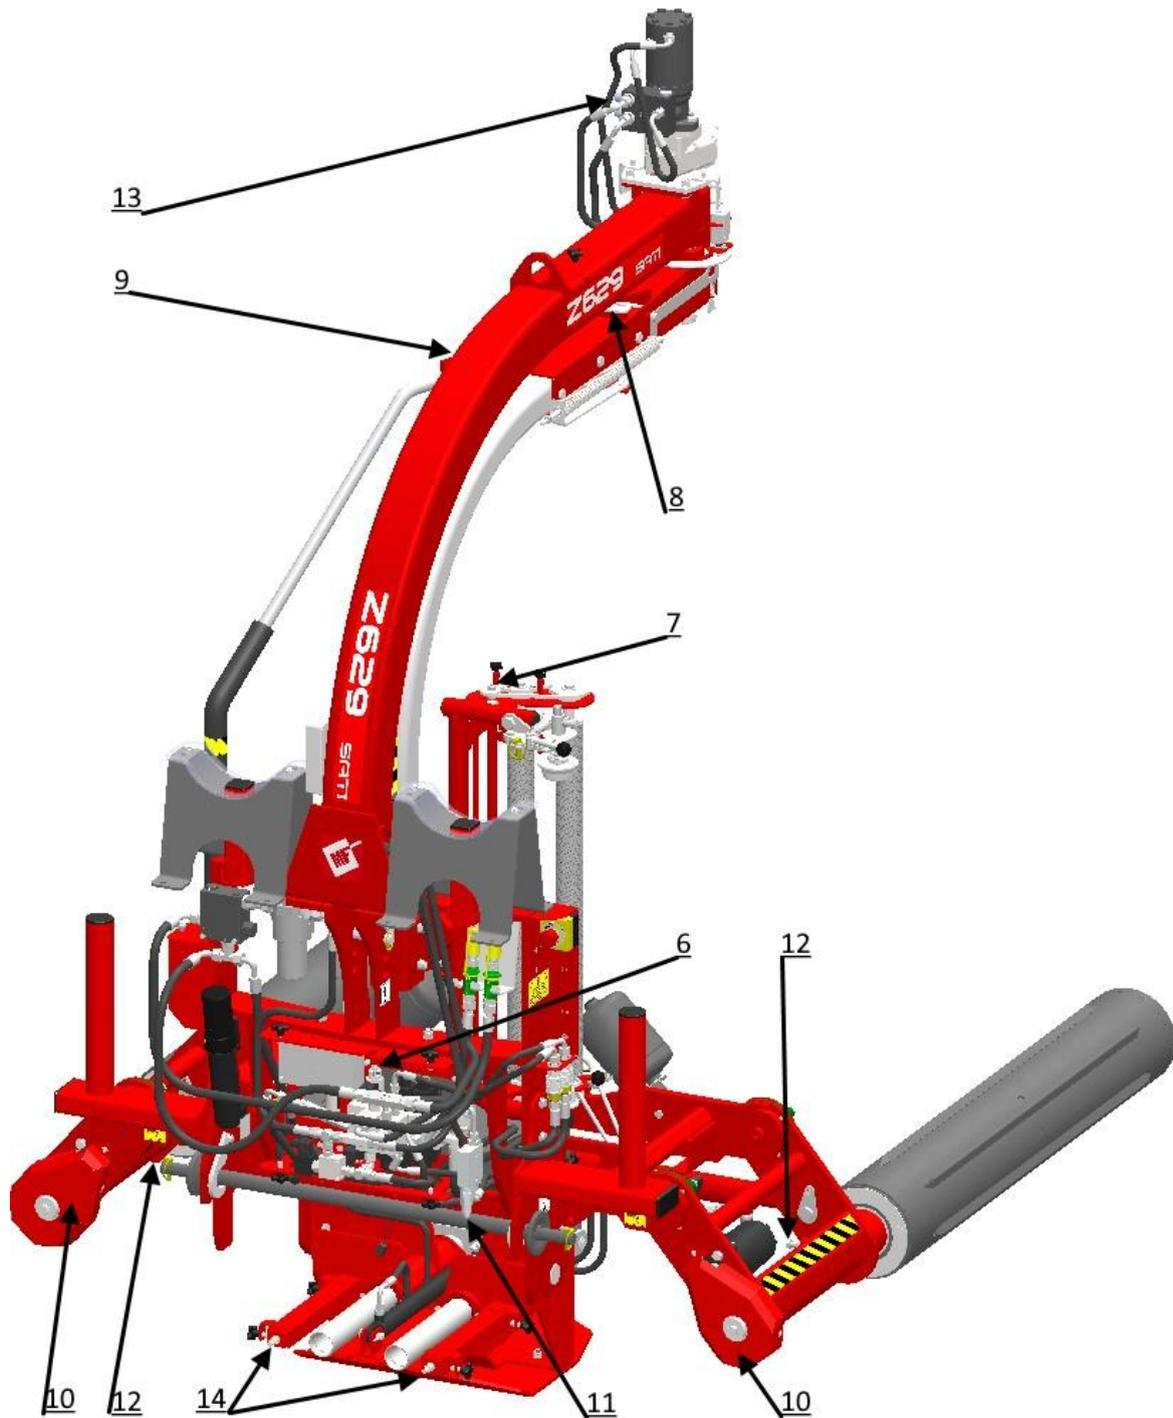
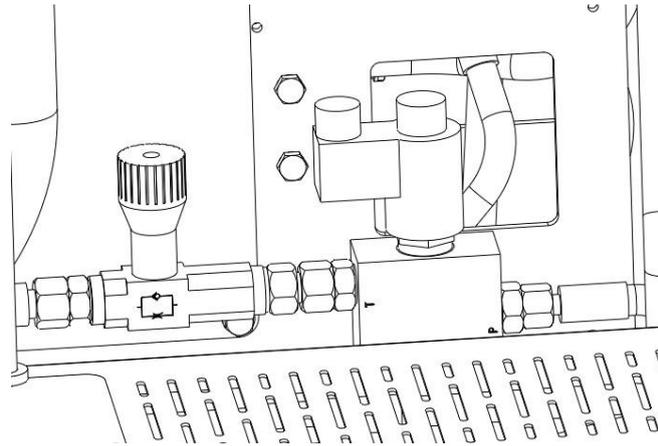
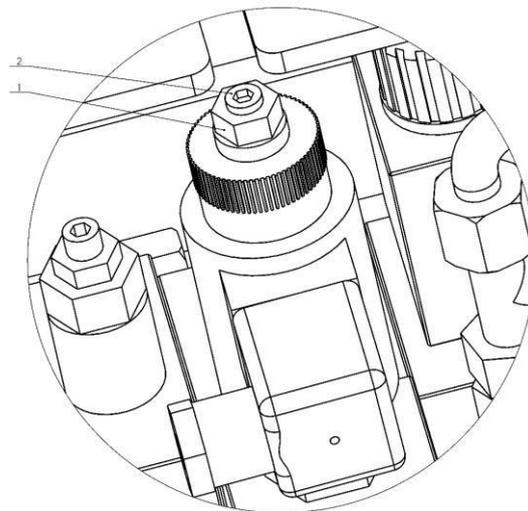

Figure 21. Layout of controls – back:
Figure 27. Non-return and throttle valve locking the tipper in the extended position
Figure 28. Proportional valve
The wrapper rpm sensor (Fig. 21 – 8) is the part most exposed to damage and the safety of work depends on it the most. A damaged sensor should be replaced with a new one. The sensor operation range is 1-10 mm. In the case of setting correction of the sensor distance from its activator or other machine metal parts it is recommended to keep distances between them of approx. 8 mm. Direct contact of the sensor tip with the activator or other machine metal parts should be avoided.
In the model with the bale tipper, the non-return and throttle valve (Fig. 27; Fig. 21 item 11) located in front of the tipper valve above the radiator cover causes the locking of the erector in the extended position. It is closed in the factory acting as a non-return valve. By opening it the supply line of the tipper can be depressurised.
The proportional valve (Fig. 28; Fig. 21 – 6) adjusts the slow revolutions of the upper wrapping arm. To change it, a counter nut should be released (Fig. 28 – 1). The control screw (Fig. 28 – 2) can be adjusted within one full turn. When it is fully screwed in the valve is open and the arm runs at idle at full speed. On the other hand, unscrewing the control screw results in a slower rotation of the wrapping arm at slow speed. In order to change it the counter nut should be released Fig. 28 – 2.